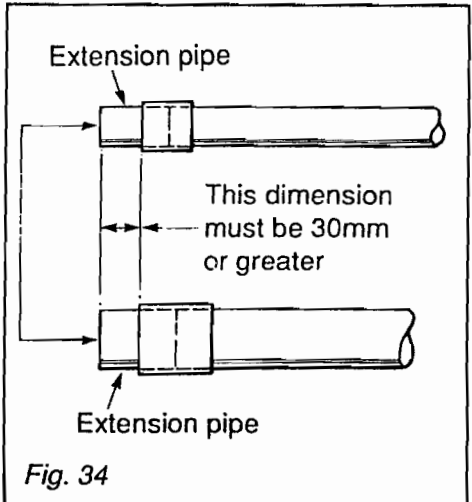

Fig. 34
c) Check before cutting - if the distance between the end of either of the cut flue pipes, or the pipe connector, will be 30mm, or less - refer to Fig.34 - it will be necessary to reduce the length of both the PVC and aluminium extension pipes and those supplied with the boiler, to achieve the required overall cutting length for the extended flue pipes.